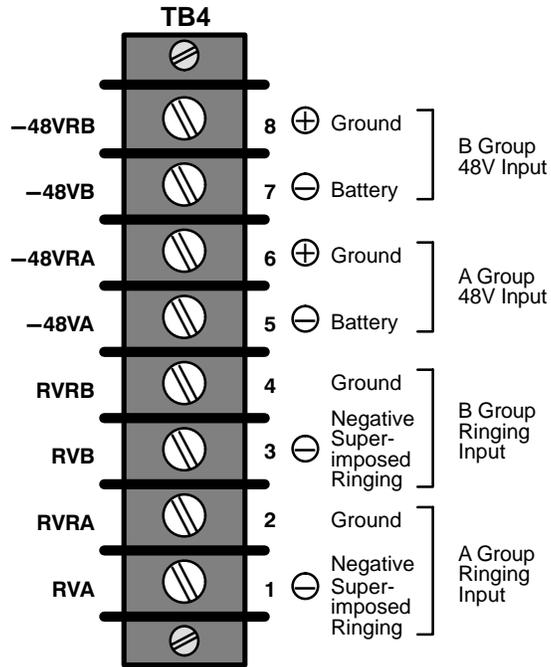

Figure 1. 360-22 Terminal Block 1 (TB4)
1.	Locate Terminal Block TB4 at the rear of the 360-22 DCT. Set a voltmeter (Simpson 260 or equivalent) to the 250Vdc scale and connect the positive test lead to TB4 terminal 8. With the negative test lead, measure the voltage at TB4 terminal 7 and then terminal 5. The voltage should be between 44 and 56Vdc at both test points. If voltages are not correct, inspect wiring for proper polarity, and/or check power source for proper output and correct as required. Refer to Figure 1 for TB4 terminal locations.